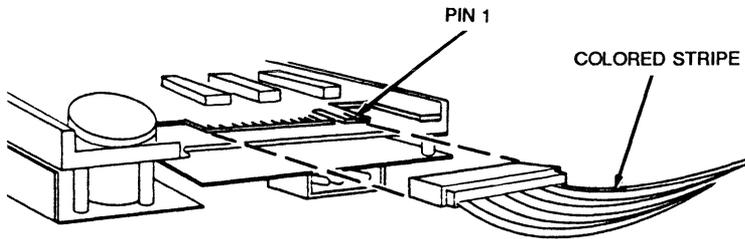

Figure 3-6 Connecting the Ribbon Cable to the Tape Drive
7. Connect the ribbon cable to the back of the tape drive as shown in Figure 3-6.